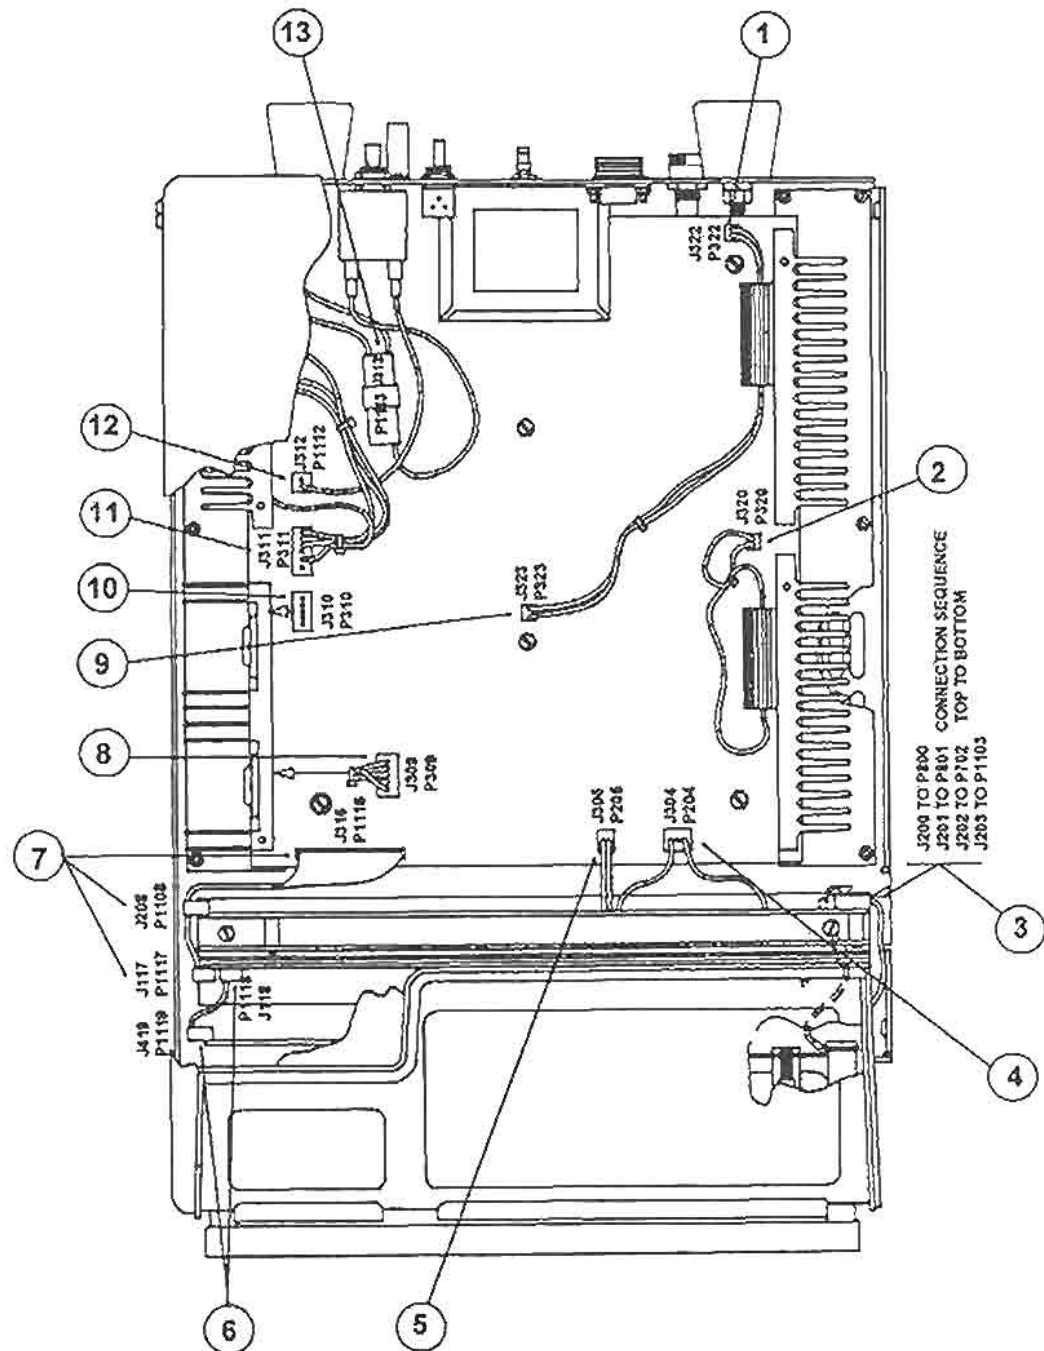
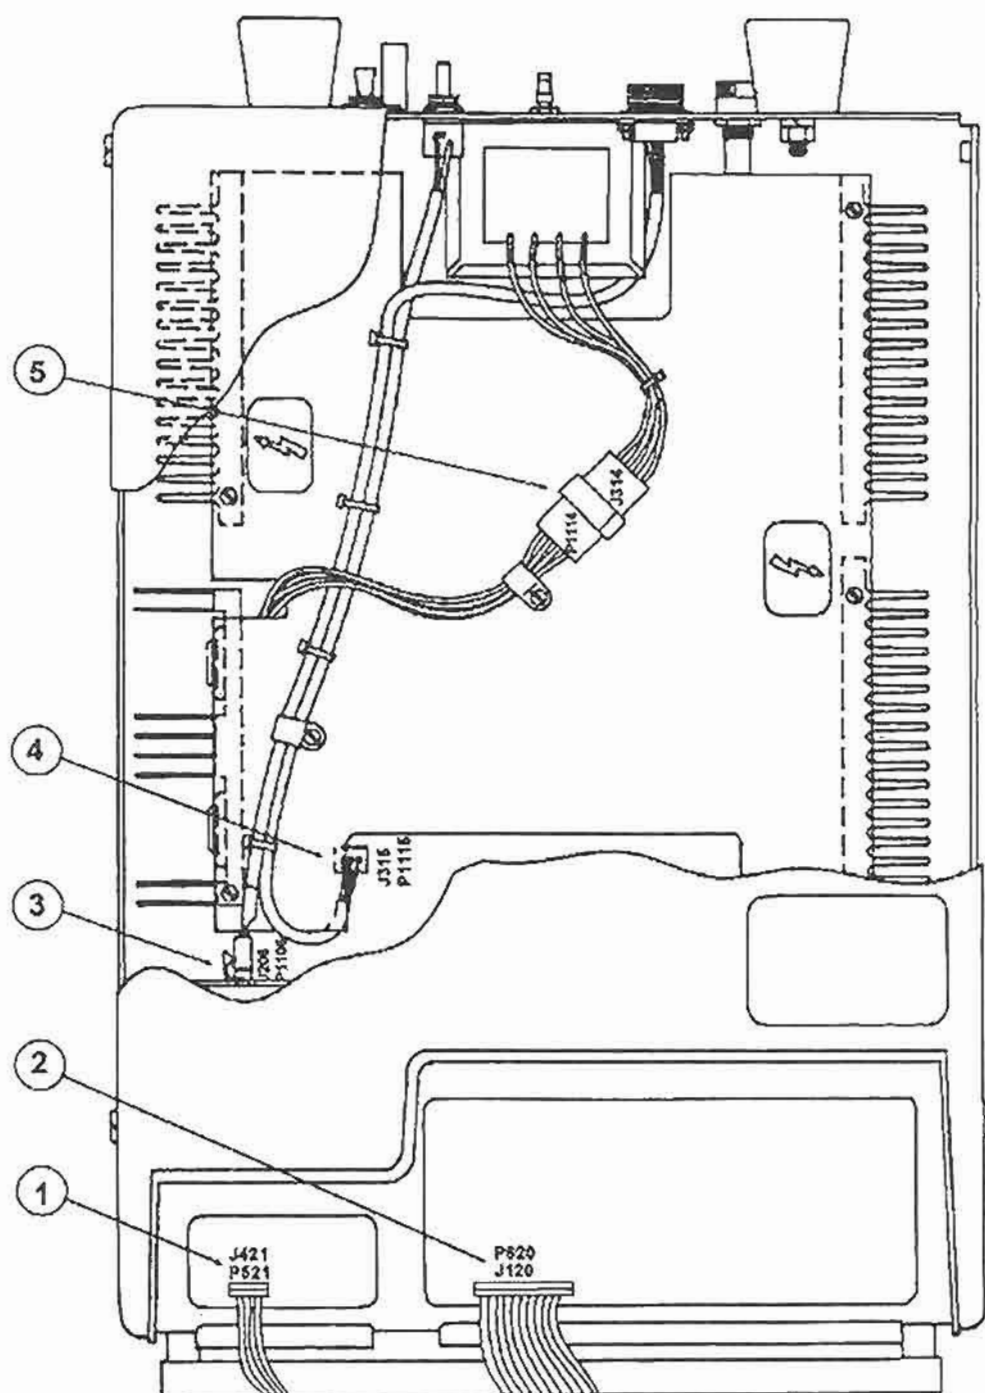

Figure 4-14. Cable connectors - view 1.
Figure 4-15. Cable connectors - view 2.
a. Cabling/wiring interconnections with electronic plug (P) and jack (J) connectors are identified in figures 4-14 and 4-15.
b. Call-outs associated with each set of connectors (fig 4-14 and fig 4-15) are used to identify their pin functions identified in table 4-1.